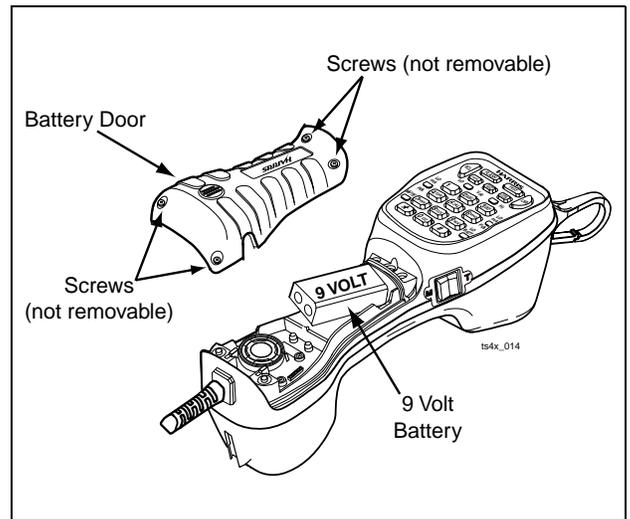

Figure 4. Battery Replacement
To replace the 9V battery (see Figure 4):
1. Using a Phillips screwdriver, loosen only the four screws attaching the battery door cover to the back of the test set (see Figure 4).
2. Remove the battery door cover (see Figure 4) and battery from the test set.
6. Place the battery door cover on the test set and fasten the four screws (see Figure 4). Tighten screws to a maximum torque of 0.904 N-m or 8 in-lb.